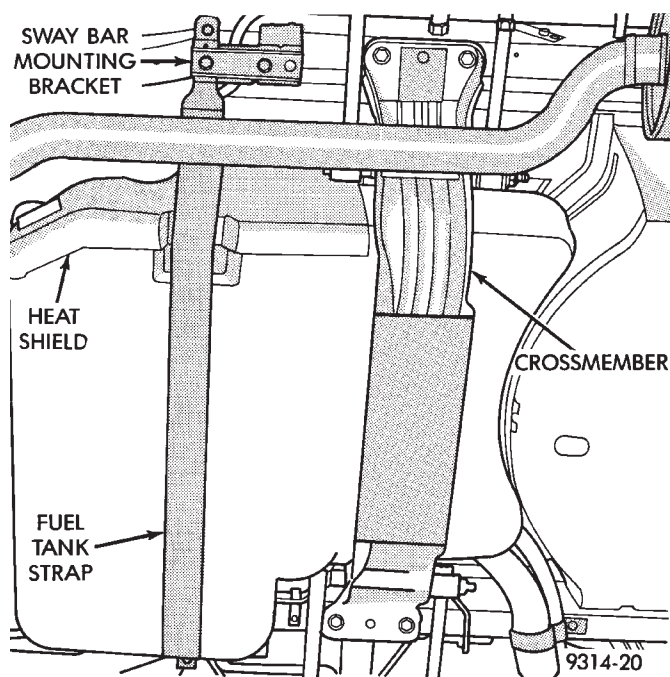

Fig. 1 Crossmember To Frame Rail Attaching Bolts
(1) Raise vehicle on jackstands or centered on a frame contact type hoist. See Hoisting in the Lubrication and Maintenance section of this manual, for the required lifting procedure to be used for this vehicle.
(2) Remove both rear wheel and tire assemblies from the vehicle.
(3) Position a transmission jack under the fuel tank just forward of the crossmember to help support fuel tank when crossmember is removed.
(4) Remove the 4 crossmember to frame rail attaching bolts (Fig. 1).